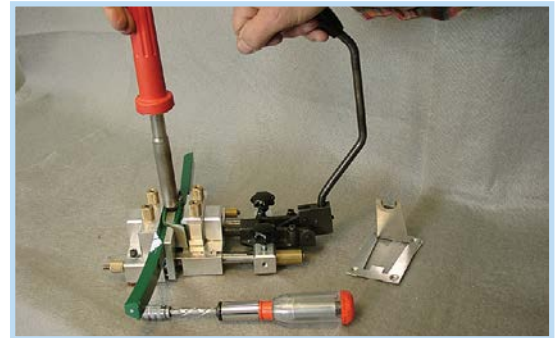

Fig. 38
3. Move the Lever forward until the ends of the Profile come into contact with the welder tip (Fig. 38).